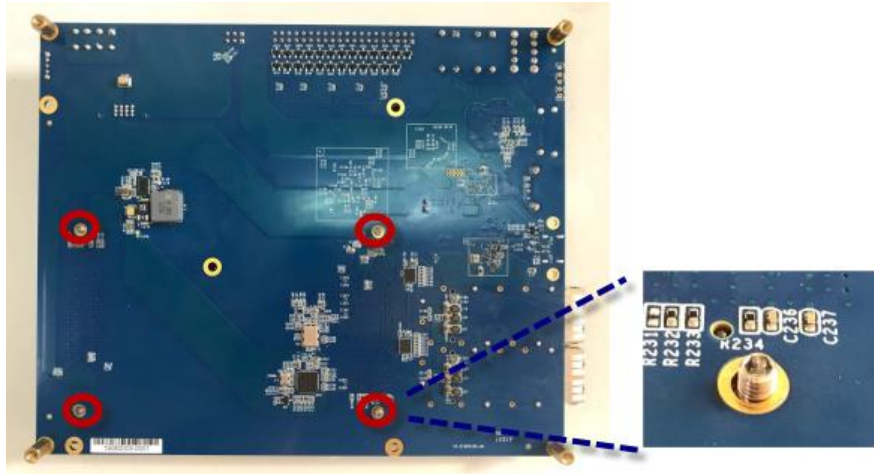

Figure 3-5 Push Apollo Carrier Board onto JSOM-T
4. Press Apollo Carrier Board and Apollo S10 to combine the FMC connectors tightly, JSOM-T is bulged on the Apollo Carrier Board as shown in **Figure 3-5**.